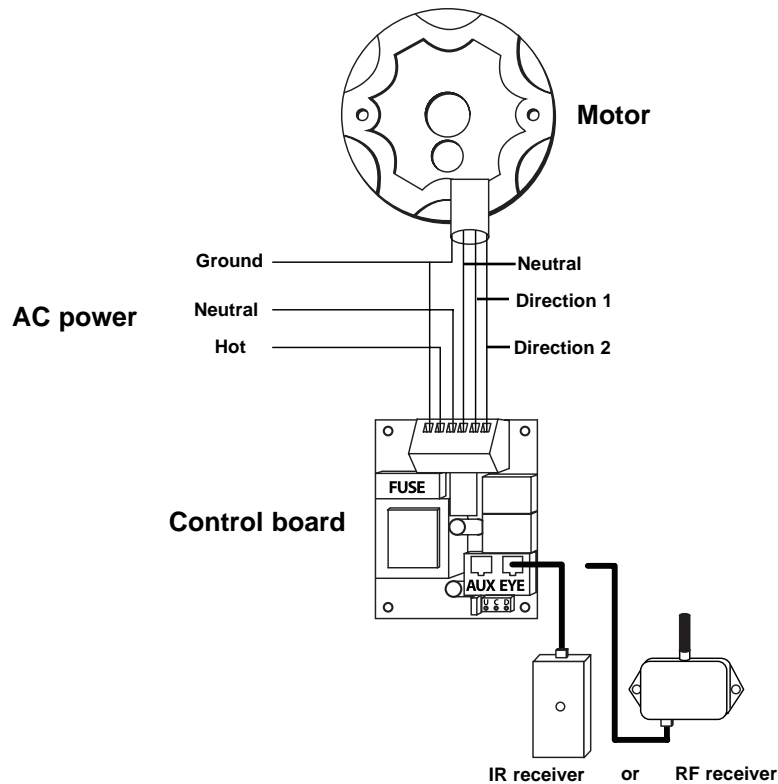

Figure 10. Connecting a single IR or RF receiver
Figure 10 illustrates the connection of a single shade to an infrared (IR) or radio frequency (RF) receiver for remote control operation.